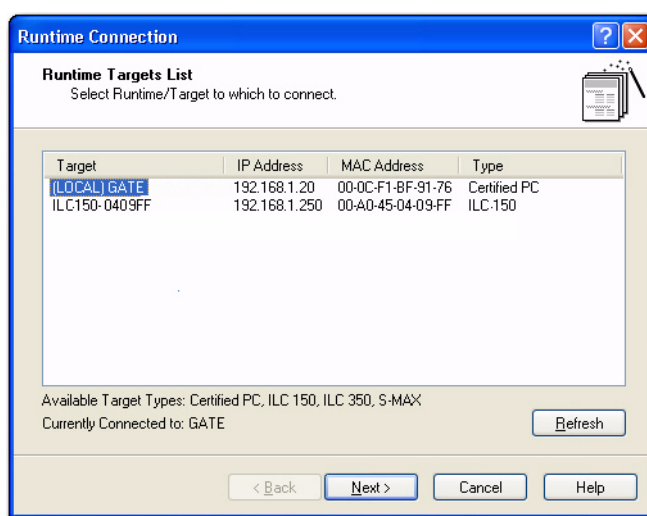

Figure 3-1 The Runtime Connection wizard lets you choose the controller you want to target.
1. In Steeplechase VLC Control Designer, select the "Configuration... Runtime Connection" menu to display the "Runtime Connection" wizard (see Figure 3-1).